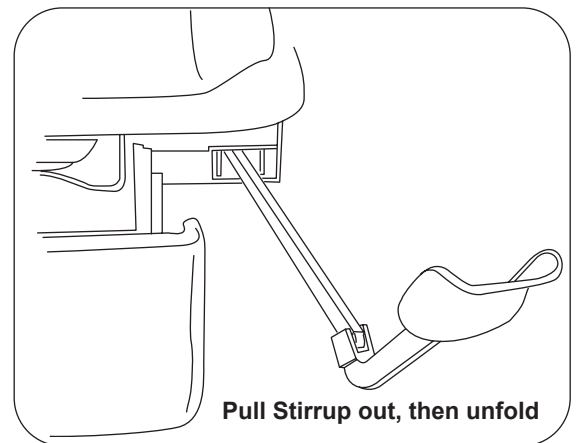

Figure 13. Operating the Stirrups
1. To operate the stirrups, grasp end of stirrup and pull straight out of the table. Lift up slightly while sliding the stirrup out (Figure 13).